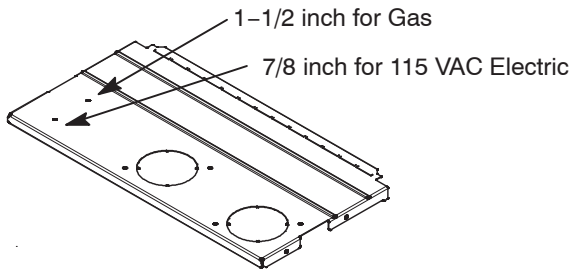

Fig. 32 - Alternate Gas and Electric Entry
NOTE: Check to ensure that external electrical box does not interfere with duct work, gas piping or the indoor coil drain. See Fig. 32 for alternate electric entry through top panel.
5. Fasten the external electrical box to the furnace casing using two (2) sheet metal screws.
11. Connect field power and neutral leads to furnace power leads inside the external electrical box as shown in Fig. 32.